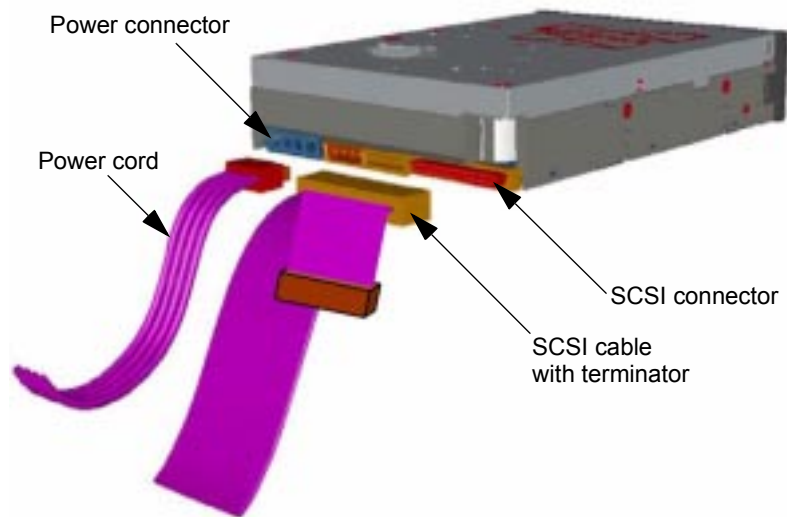

Figure 2-10 Internal tape drive cable connections
4. Connect the power cable and the SCSI cable, as shown in Figure 2-10.